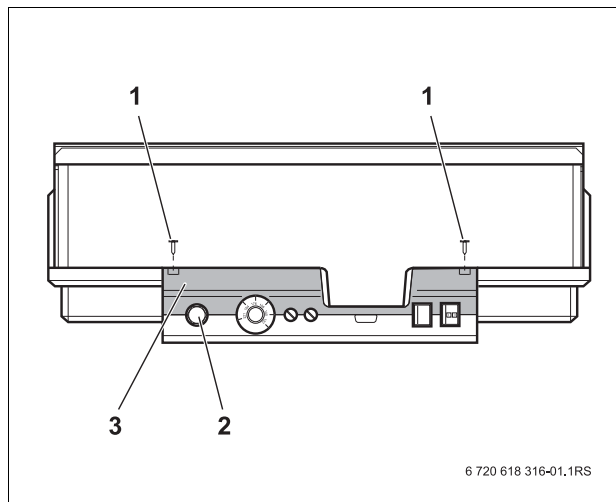

Fig. 1 Logamatic 4 control panel
- The manual reset high limit (STB) (→ Fig 1, [2]) must be removed from the housing to select the desired temperature.
- Undo both screws (→ Fig 1, [1]) to remove the manual reset high limit (STB).
- Remove the cover (→ Fig 1, [3]).
- Remove the protective cap (→ Fig 1, [2]).